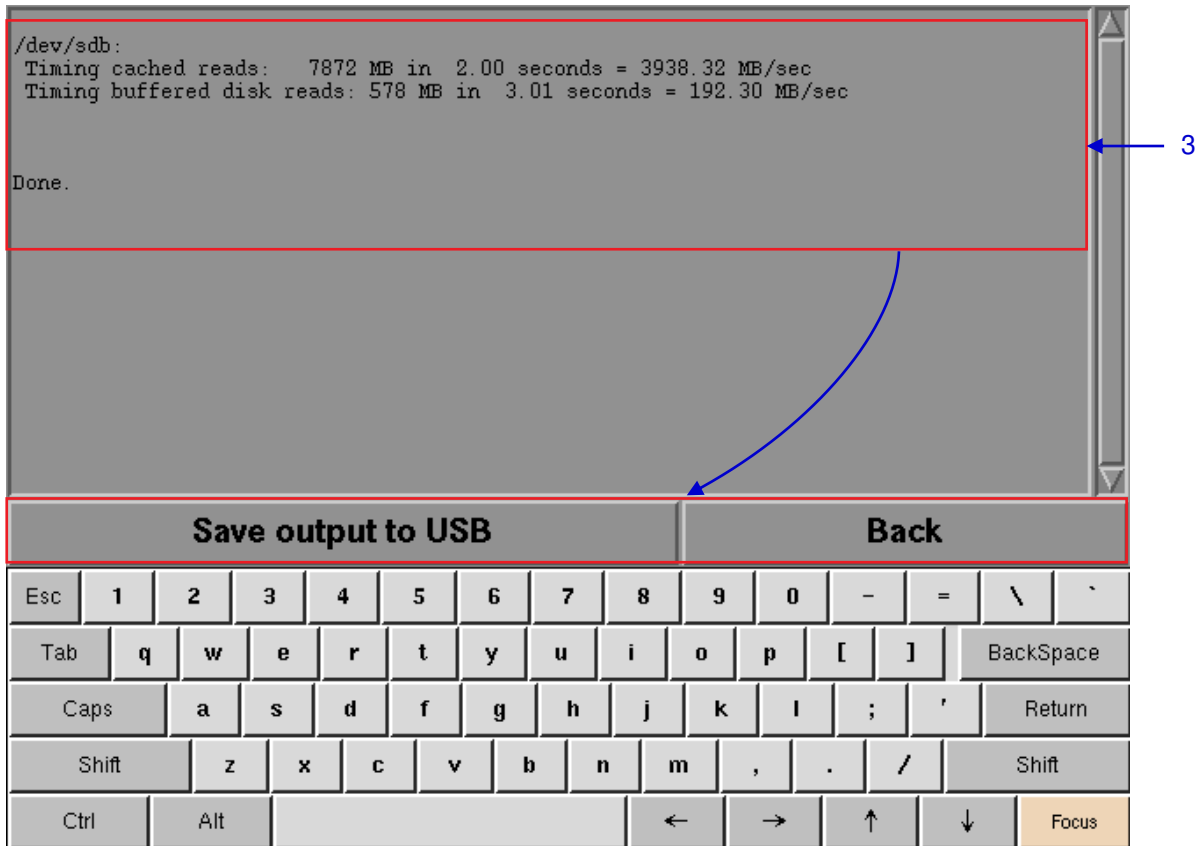

Figure 96 Shows information on storage performance of the selected hard disk.
- 3 A new window showing information on hard disk performance appears as seen in **Figure 96**.